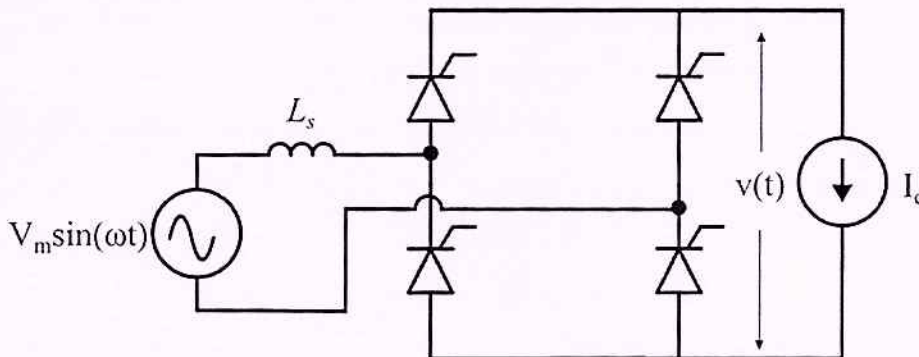

Figure 2
- 11 a) A fully controlled three-phase thyristor converter has an AC input line-to-line voltage of 400 V RMS at 50 Hz. It delivers 2700 W to a highly inductive load with a firing angle of 60 degrees. Neglecting losses and assuming the DC-side current is ripple-free, determine the DC-side voltage and the total harmonic distortion (THD) of the input AC current. CO2 (5)
- b) Derive the expression for the input power factor of a single-phase semi-converter feeding a constant current load. CO2 (4)
- 12 a) A single-phase fully controlled converter is connected to a constant current load, as shown in Figure 2. The converter is supplied by a sinusoidal AC voltage source with a series source inductor. Draw the instantaneous output voltage  $v(t)$  and derive the expression for the average voltage in terms of given parameters when the converter is operated at a firing angle  $\alpha$ . CO2 (5)